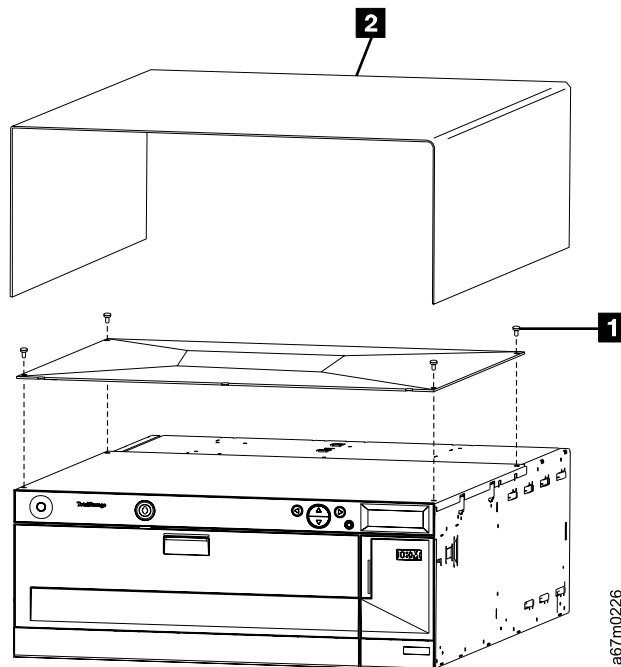

Figure 8. Attachment of protective plate and cover
2. Remove the four screws (**1** in Figure 8) located in the corners of the front plate on top of the base unit. Do not remove the plate itself. The heavy-gauge protective plate will be installed on top of the existing plate.
4. Attach the screws through the protective plate into the base unit (**1** in Figure 8).